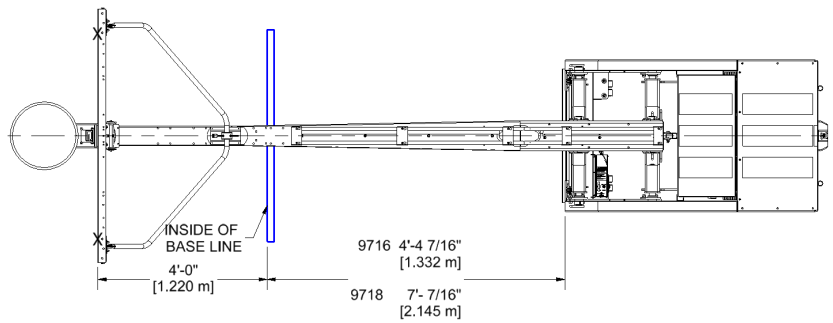
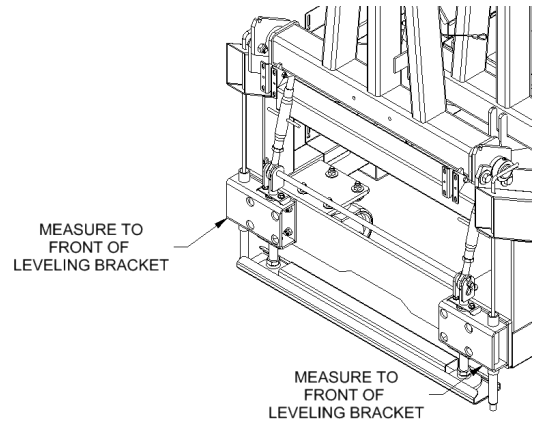
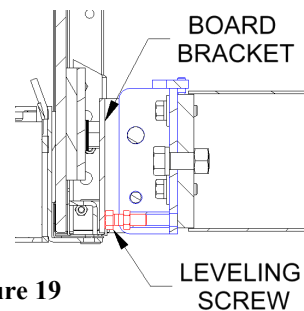

Figure 13
Figure 15
Figure 19
- Push the unit to the playing location on the court. The unit should be centered on the centerline of the court as shown in figure 13. From the inside edge of the court baseline to the front of the frame's Leveling Brackets, figure 15, should be about 4'-4 7/16" [1.332 m] for the model 9716 and 7'-0 7/16" [2.145 m] for the model 9718.
- To level the backboard in the vertical plane, first loosen the two carriage bolts, item 2, at the Board Brace Clamp, item #15, on top of the boom as shown in figure 15. Using a $\frac{3}{4}$ " wrench, loosen the $\frac{1}{2}$ " Jam Nut and adjust the $\frac{1}{2}$ " Leveling Screw in the board mounting bracket as shown in figure 19 & 20 until the backboard is plumb. Tighten the locking nuts on the leveling bolt. Tighten the two carriage bolts at the Brace Clamp, item #11.